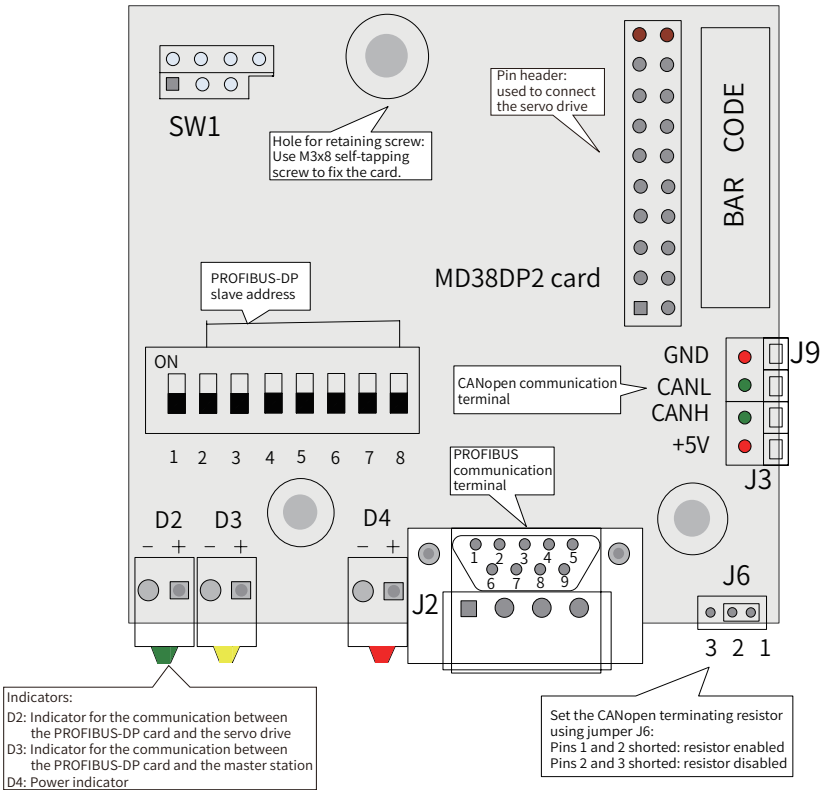

Figure 10-5 Layout of MD38DP2
- ◆ For some products, the indicator color may be inconsistent with the number. The number is preferred. The indicators are D2, D3, and D4 from left to right. See "Figure 10-5 Layout of MD38DP2" on page 220 for details.